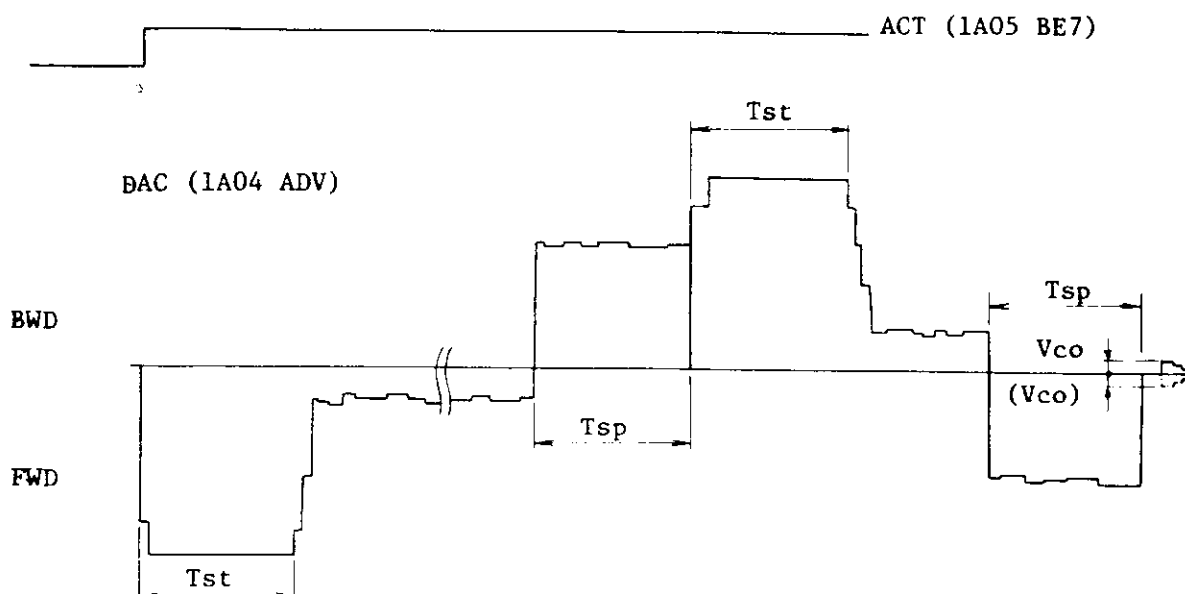

Figure L.13 DAC output (forward start/stop)/(backward start/stop)
- (1) Issue command \$E4 with a field tester to put the MTU in the streaming mode.
- (2) Issue command \$25 to perform the forward start and stop operation. (See Figure L.13.)
- (3) Trigger the leading edge of signal ACT at 1A05 BE7, 1A05 E7, and 1A04 ADV are also available on the MTU logic gate motherboard. Check that the time Tst and Tsp shown in Figure L.13 is in accordance with Table L.3.
- (4) When in a streaming mode, the start and stop time can be measured by moving the tape either forward or backward. The backward start/stop operation is performed by issuing command \$65.